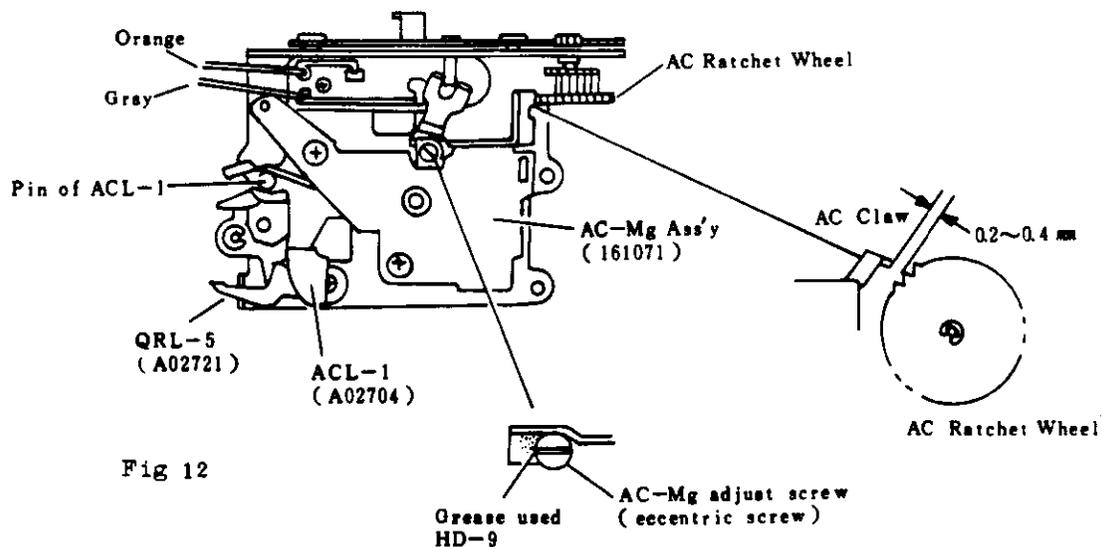

Fig 12
- b) Mount the Mirror Box Parallel with front side of the camera body and Pin of ACL-1 (Fig 12) at the front of W. Obstruction Lever (B) (Fig 10).